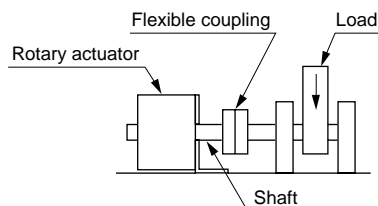

Fig.2 Radial load
If such a load is unavoidable, use a structure conveying only rotation as shown in Fig. 2.
(2) Separate the seal washer from the cap (2) as shown in Fig. 2.